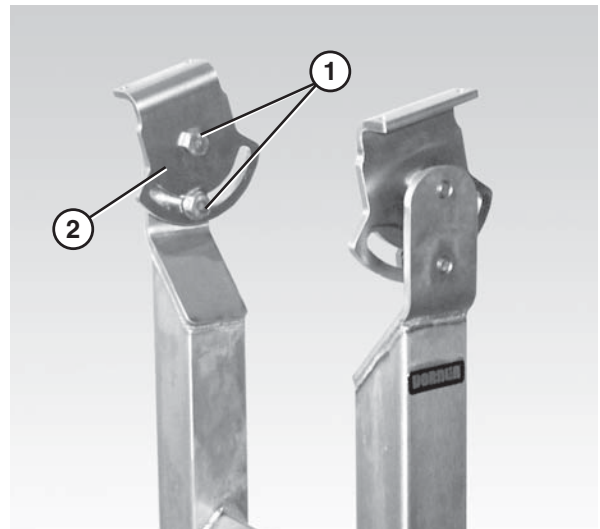

Figure 8
- For slotted brackets, loosen the two bracket screws (Figure 8, item 1) and adjust the bracket (Figure 8, item 2) so that the top is at approximately the same angle as the conveyor. Do not tighten the screws.